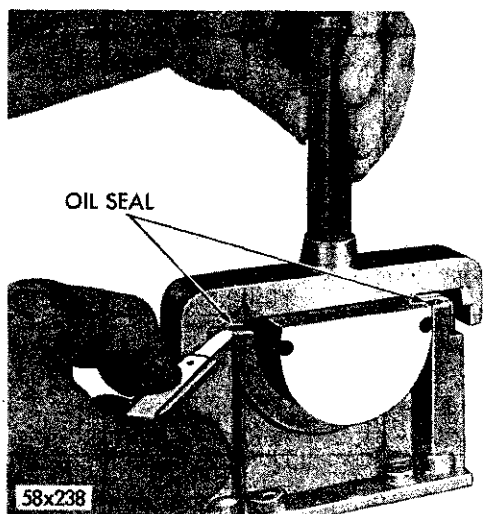

Fig. 49—Trimming Rear Main Bearing Lower Oil Seal
(2) Install the bridge on tool and tap the seal down into position with Tool C-3625 for 361 and 383 Cubic Inch Engines or Tool C-3743 for 413 Cubic Inch Engines until the tool is seated.
(3) Trim off that portion of the seal that protrudes above the cap (Fig. 49).